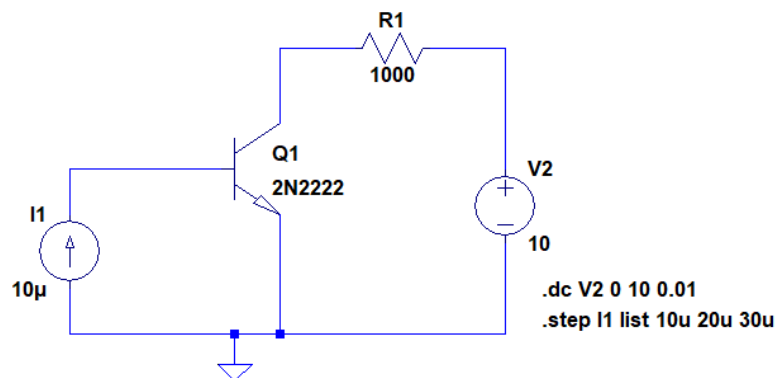

Fig. 10. Circuit for the output characteristics determination for given values of the base current I_B .
4. Determine the output characteristics of the bipolar transistor $I_c = f(U_{CE})$ for the given base current values: 10μA, 20μA i 30μA. Create a simulation scheme according to Figure 10.